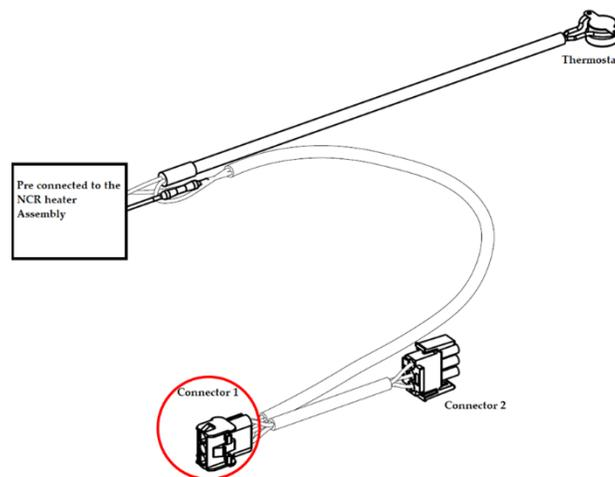
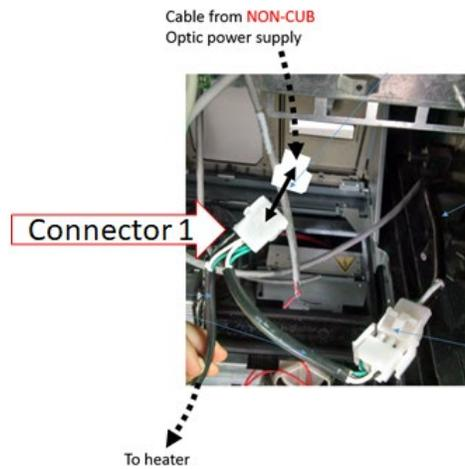

Figure 115
Figure 116
11) Attach Connector 1 (identified in Figure 115) to the NON-Invenco Link OPTIC power supply cable as shown in Figure 116.